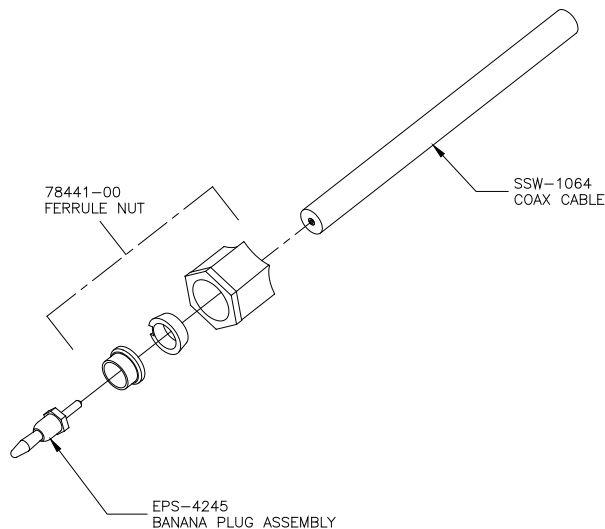

Figure 9a: High Voltage Cable Assembly
4. After assembling, use an ohm meter to check for continuity from one end of the cable to the other. **The reading should be 10 ohms or less.** (Refer to Figures 9a and 9b for pre-assembled and assembled pictures.)